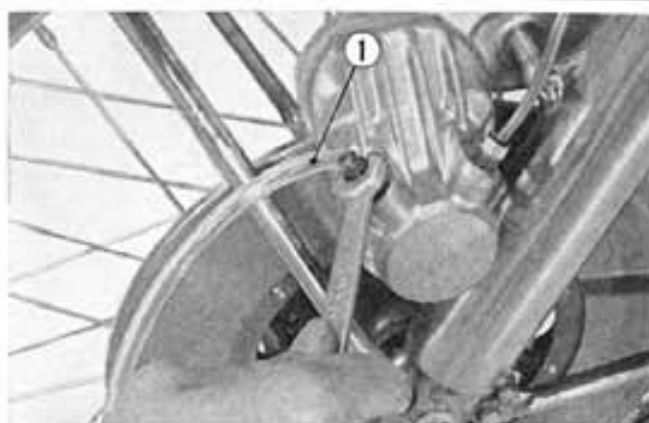

Fig. 14-13 ① Bleeder hose
a. Remove the dust cap from the bleeder valve and attach bleeder hose. (Fig. 14-13)